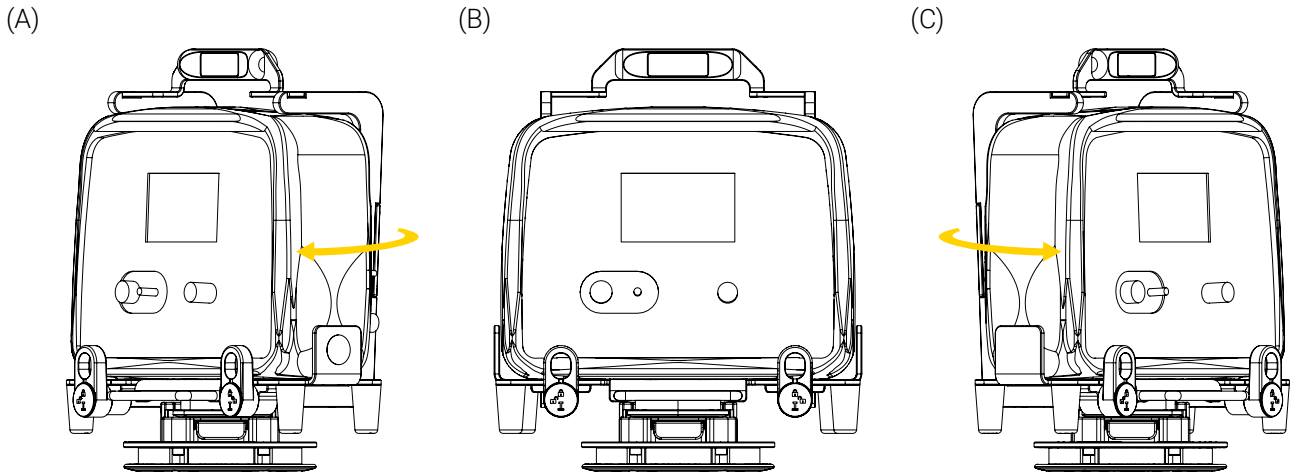

Figure 12: Rotating the mounting bracket
4. Turn the mounting bracket up to 360° clockwise or counterclockwise to the desired position (Figure 12).